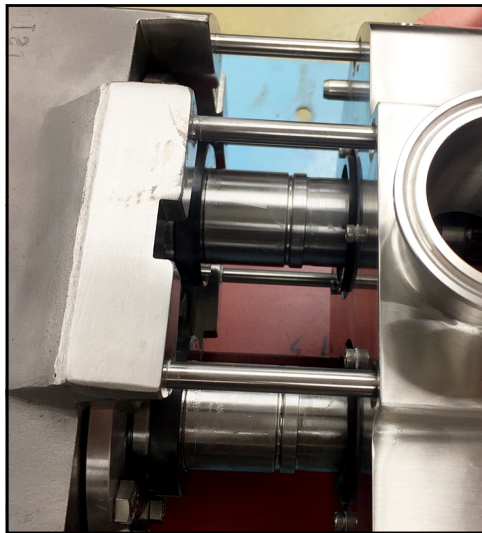

Figure 52 - Remove pump body
2. Remove the pump body and place it on a protected surface as shown in Figure 52. When removing the pump body, be careful not to damage the seals with the shafts.